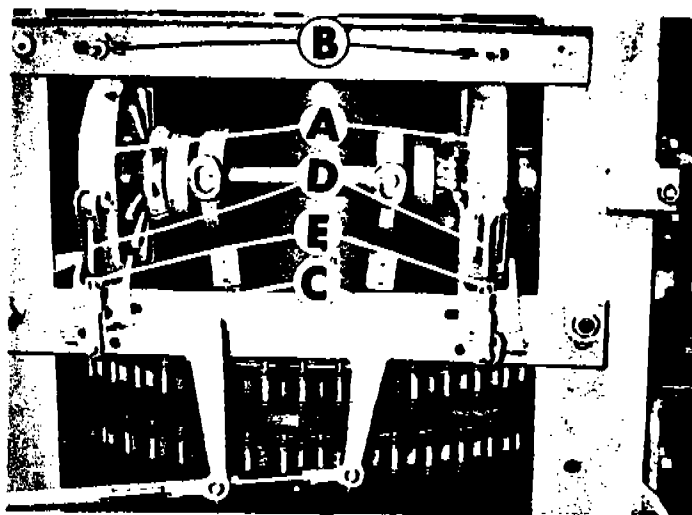

FIG. 4
The brakes (A) Fig. 4 are adjusted by means of the nuts (B). The adjustment should be such that, with the control handle (C) Fig. 3 in the center segment of ratchet (D), the brakes are set. As the brakes wear and no further adjustment can be made with nuts (B), further adjustment may be made by disconnecting clevis (C) Fig. 4 and unscrewing it on brake rod (D). However, when this adjustment is employed, never go beyond the point where less than four or five threads of the brake rod (D) are engaged in the clevis (C). When the adjustment is completed, be sure to tighten lock nut (E). Replace the brake lining on the band before the rivets score the drum.